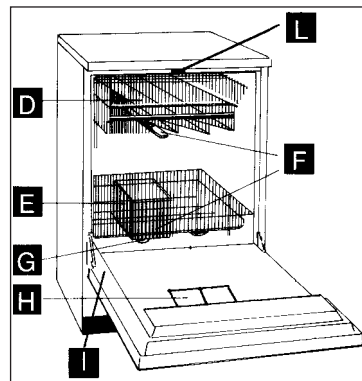

Fig. 3
**WARNING: THE ELECTRICAL REQUIREMENTS ARE INDICATED ON PLATE I (FIG. 3)**